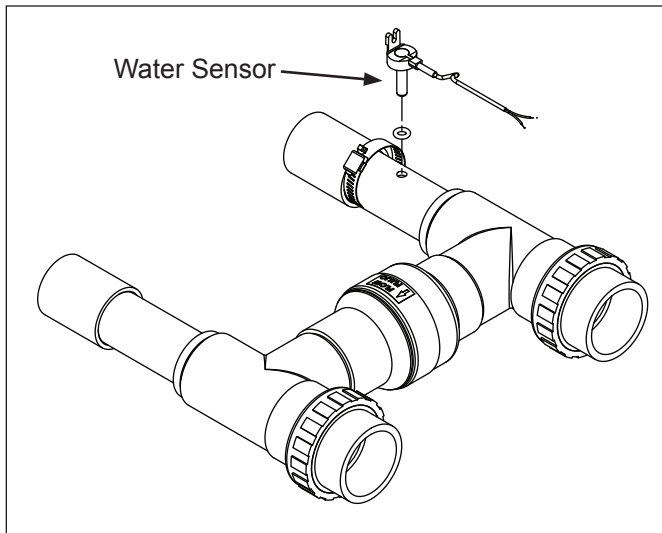

Figure 4. Water Sensor Installation (Older Models and AE-Ti Models K-P)
1. Drill an 11/32" (8.73mm) hole through the top of the PVC pipe just behind the bypass assembly. See Figure 4.